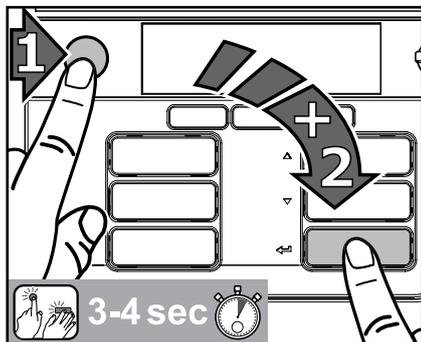

Fig. 34
1. Press first the STOP button and then the enter button  and hold them pressed simultaneously for 3-4 seconds to enter the cleaning mode (fig. 34).